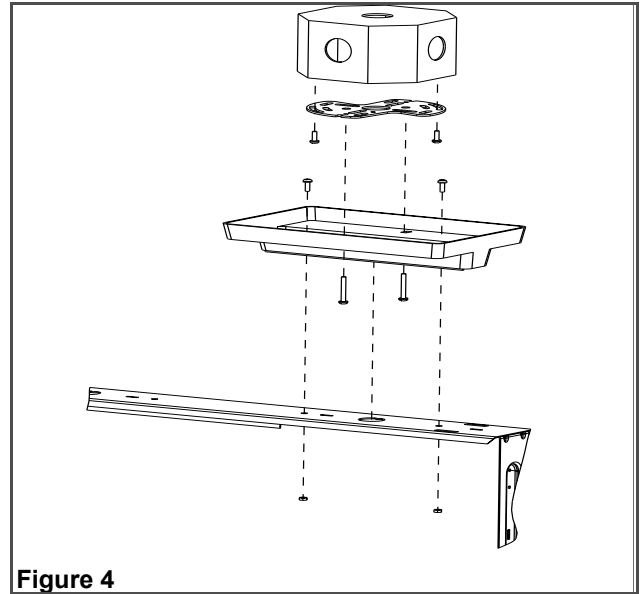

Figure 4
- e. Fasten the canopy to the exit using #8-32 x 3/8" screws and kep nuts provided (see fig. 4).